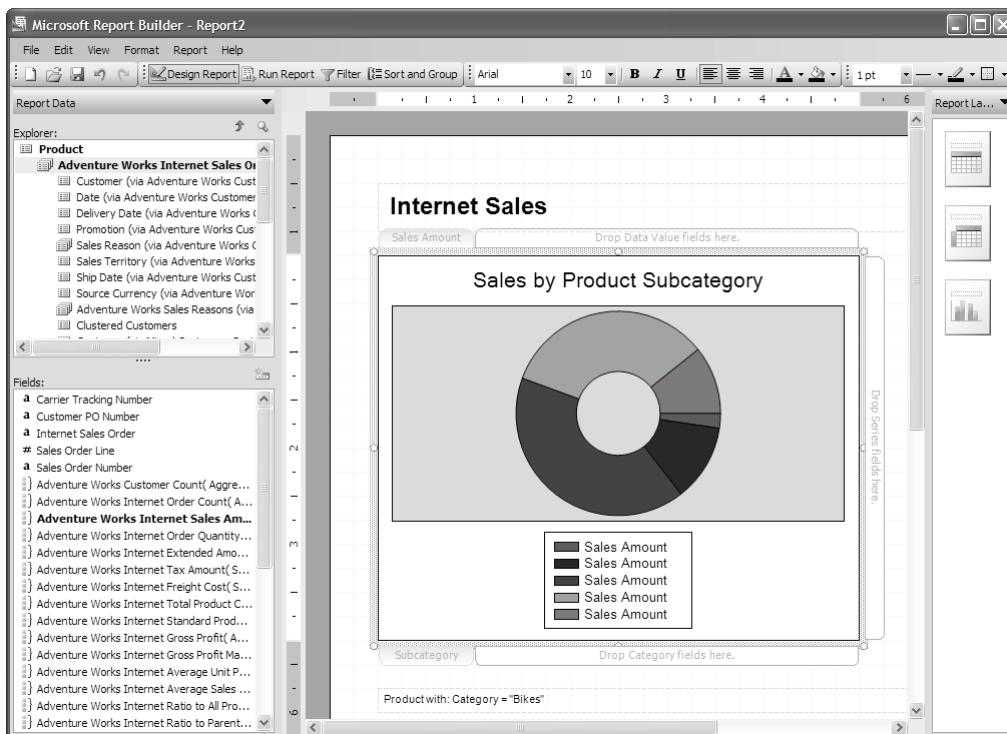

Figure 18.28 End users would use the Report Builder to generate ad hoc reports from the ad hoc model.
- In the Explorer pane, click on the *Product* entity. Drag the *Subcategory* attribute from the Fields pane to the chart *Drop Category Fields here* area (Figure 18.28).